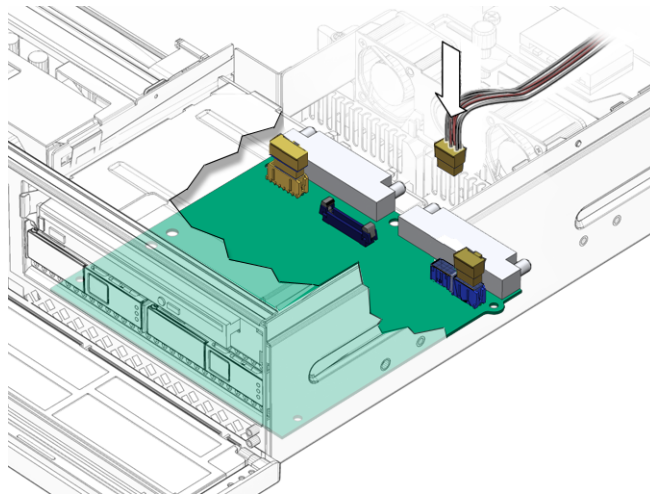

FIGURE 5-17 Connecting the Hard Drive Fan Assembly Cable
4. Connect the hard drive fan assembly cable to the power board at J5 (FIGURE 5-17).